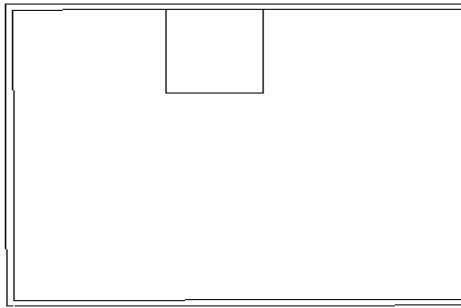
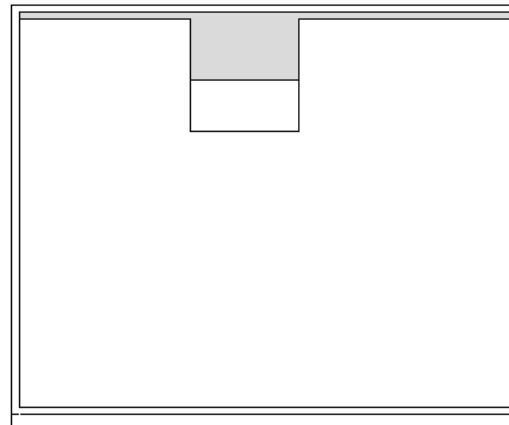

Figure 3-54 Sketching the opening in the ceiling plan view
Figure 3-55 3D view of the opening in ceiling
**Vertical** | To cut a vertical opening, choose the **Vertical** tool from the **Opening** panel and select the required ceiling, or floor; the **Modify | Create Opening Boundary** tab will be displayed. You can use various tools from this tab to sketch the boundary of the opening. Sketch the opening in the appropriate view using the sketching tools. After sketching the opening boundary, choose the **Finish Edit Mode** button from the **Mode** panel; a vertical opening will be created in the selected element. You can use the sketching tools to draw a sketch of appropriate size, as shown in Figure 3-54. The opening can also be viewed in the 3D view, as shown in Figure 3-55.